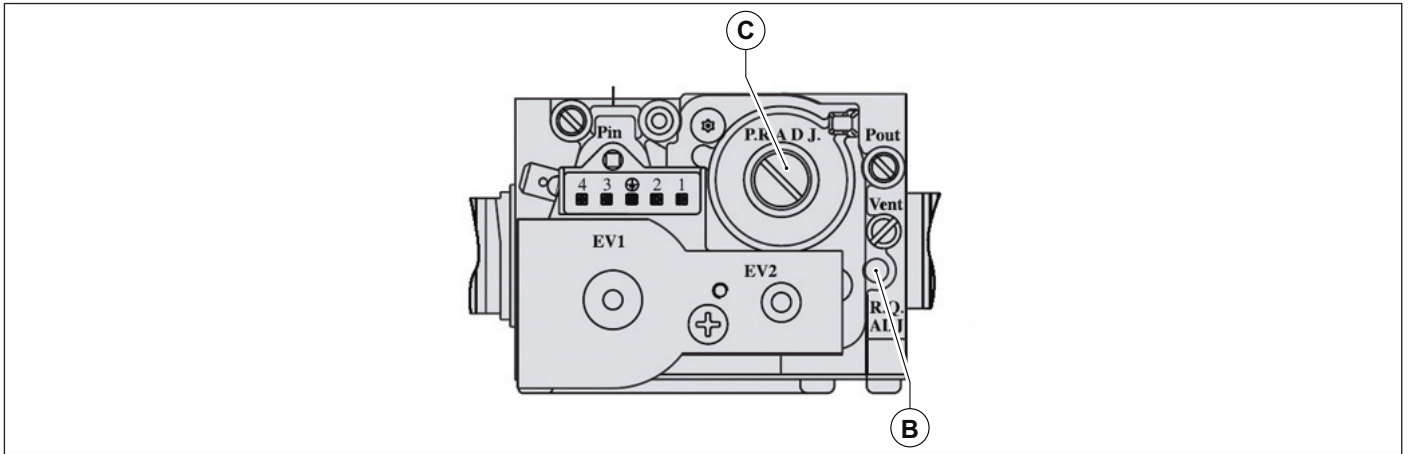

Fig. 24 Adjusting CO2 value
- Set flue gas CO2 content by turning the ratio adjuster **B** (see Fig. 24 Adjusting CO2 value) and ensure that reading falls within the limits of Tab. 13 Flue CO2 content. Let boiler flue cleaning function on and continue with the next point "Minimum heating output adjustment".
- Set flue gas CO2 content by turning the offset control **C** (see Fig. 24 Adjusting CO2 value) and ensure that reading falls within the limits of Tab. 13 Flue CO2 content.